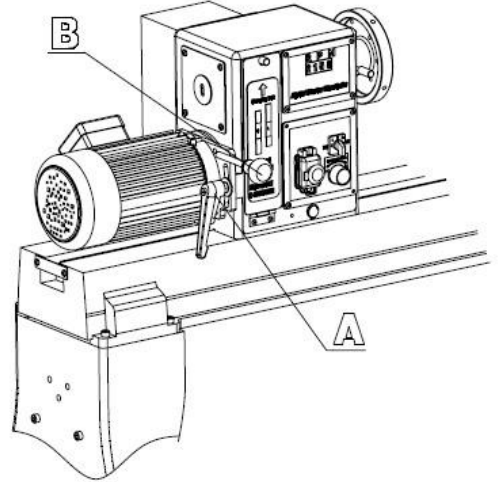

Fig 9.
2. Loosen the locking handle (A, Fig. 9).
3. Lift up on the tensioning handle (B, Fig. 9) to remove tension from the poly v-belt. You can now position the belt in the desired speed range. It is pictured in the low speed pulley range. Note: The "High" speed range (330-3200) provides maximum speed, where as the "Low" speed range (100-1200) will provide maximum torque.